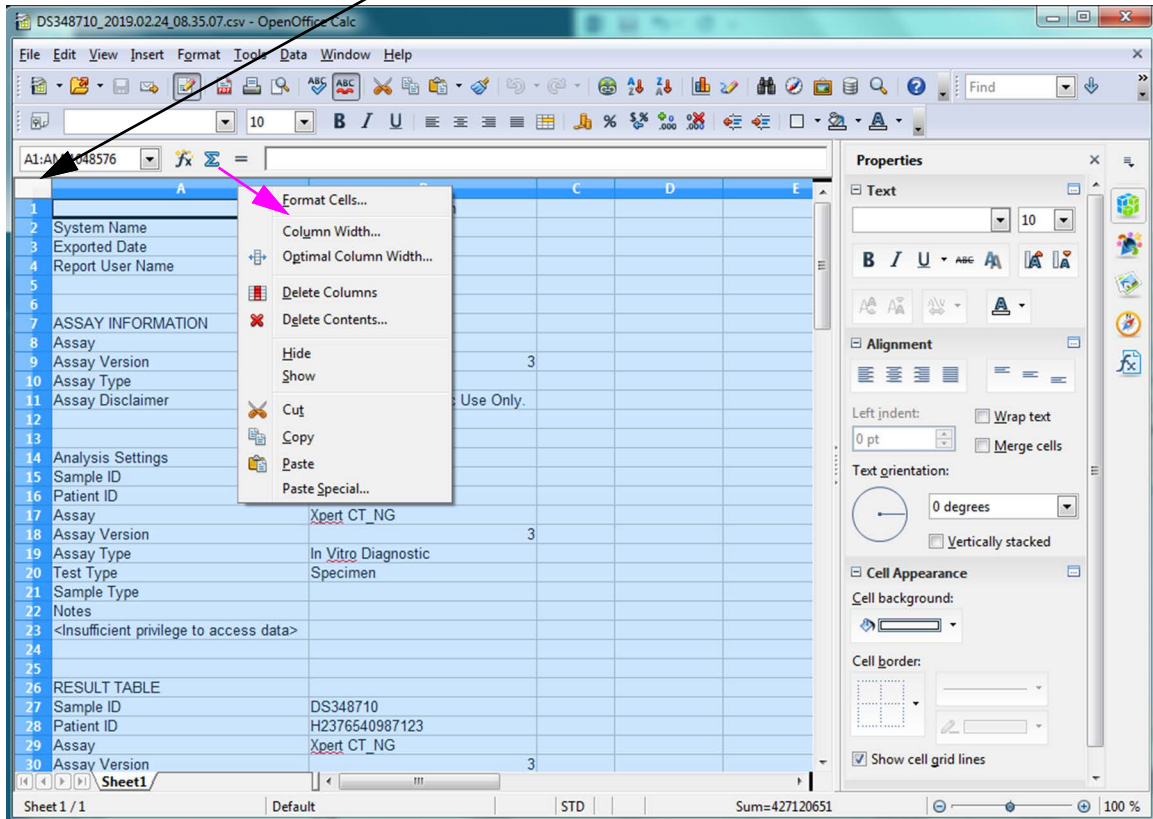

Figure D-6. Drop-Down Menu to Select Column Width
8. Right click on the column header. A drop-down menu will appear at the right of the column (see Figure D-6).